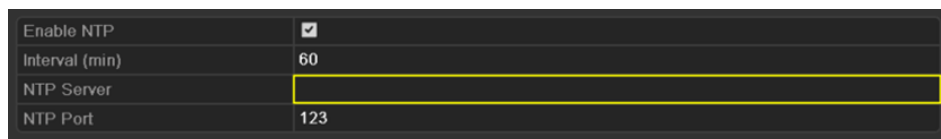

Figure 9. 13 NTP Settings Interface
2. Select the **NTP** tab to enter the NTP Settings interface, as shown in Figure 9. 13.